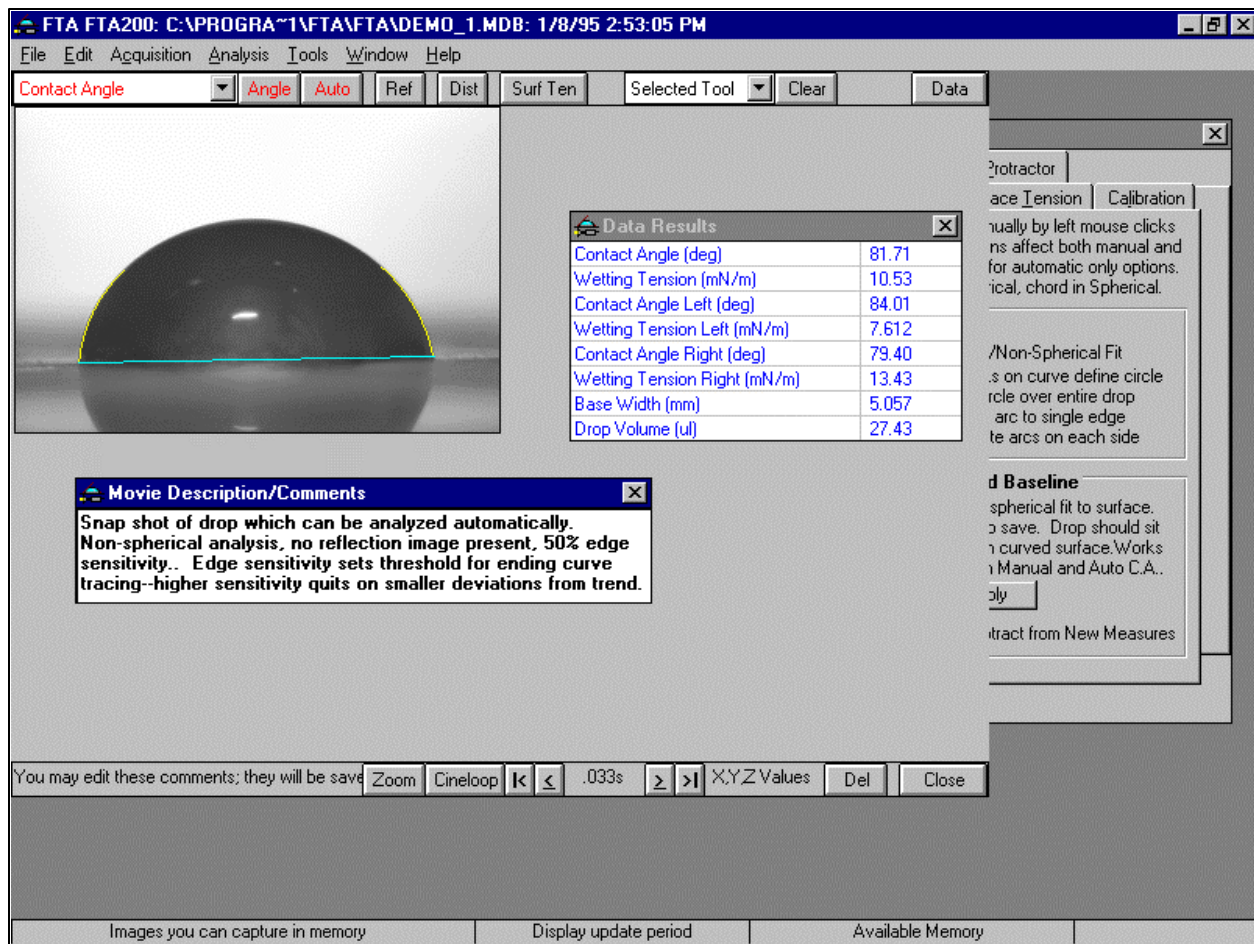
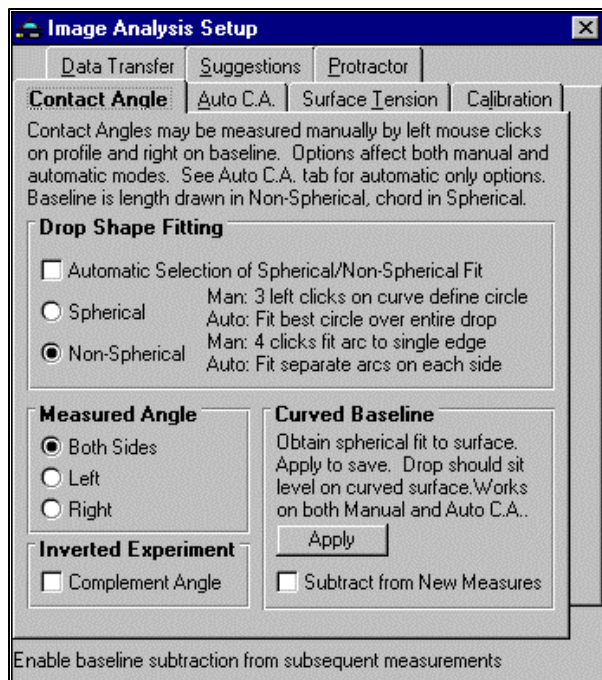

Figure 1. Demo\_1.mdb opened.
Figure 2. Image Analysis setup form.
**Opening A Movie.** The next step is to open a pre-recorded movie. Click on File in the main menu, then Open Movie, then navigate the dialog box to the application directory, which is the folder containing the program being run. Open demo\_1.mdb (“mdb” stands for Microsoft data base). Your screen should look something like Figure 1 on the next page. (FTÅ100 series users can open pre-recorded movies, even if they can not acquire them.)
**Image Analysis.** Partially hidden in Figure 1 is the Image Analysis Setup form shown in Figure 2. These tabs control the algorithms which perform the image analysis. If you wish, you can try them out on the demo movies. Actual analysis is invoked by the command buttons at the top of the Movie form, e.g., Angle, Auto, etc. Anything that you do to a movie is immediately stored on disk, as this is a database. If you need to preserve the original, make a copy before beginning. Demo users can obviously always reload the software.